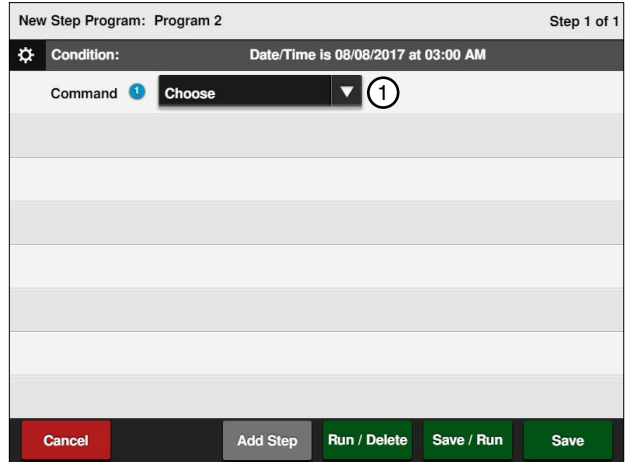

Figure 105-1 1. Choose Command Drop-Down
4. Enter the commands to execute on 08/08/17 at 3:00 AM. Refer to Figures 105-1 through 105-2.